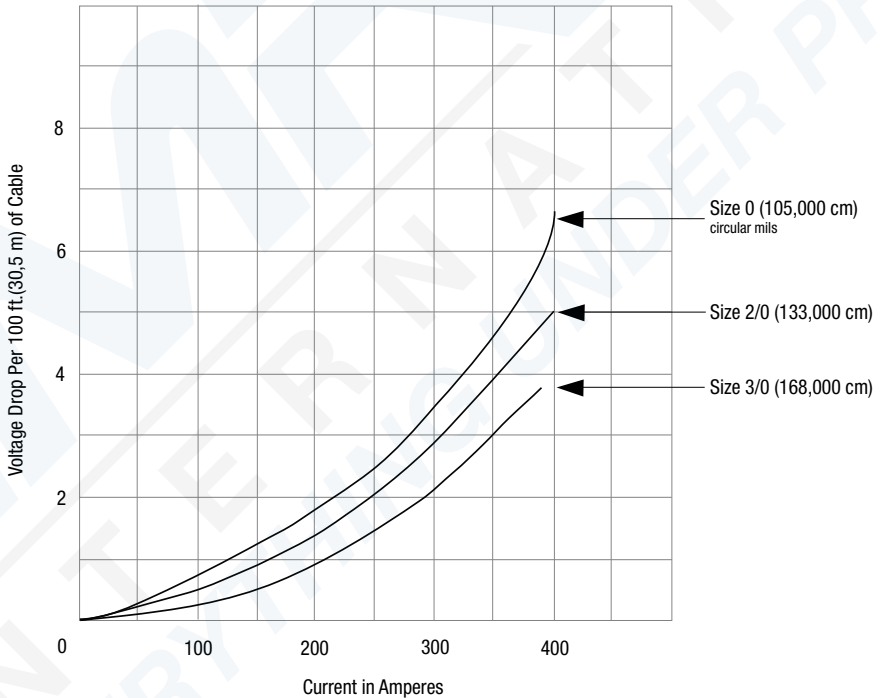

Figure 2: Voltage Drops for Cable Size/Length
- Voltage drops for cables are shown in Figure 2. The effect of contact resistance is not shown in the table, but it can be kept to a minimum by making sure that all connections are tight and insulated.